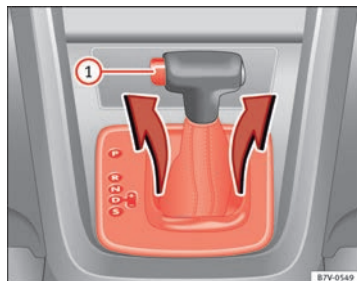

Fig. 197 Remove the lining from the area of the gear indication
- Pull the cover up around the dust guard on the gear selector lever ⇒ Fig. 197.
- Press the lock button ⇒ Fig. 197 ① on the gear selector lever knob and place the gear selector lever in the **N** position.